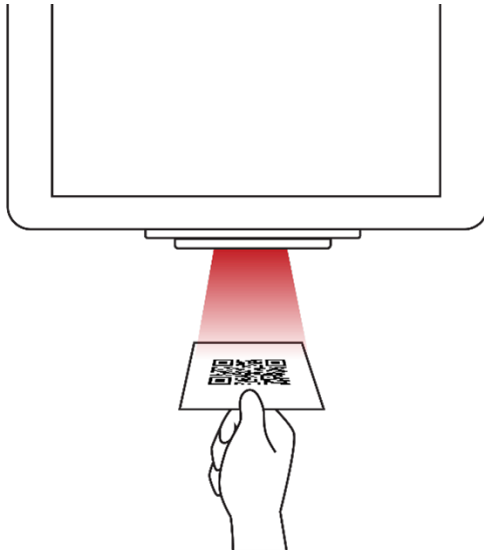

Figure 6-6. Scanning the QR code
5. Hold the QR code 5 to 10 inches away from the barcode scanner so that the barcode scanner's red target light centers on the code (Figure 6-6).